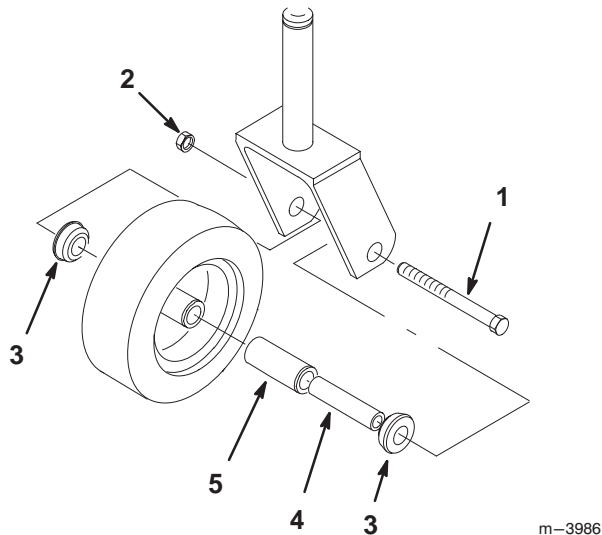

Figure 29
1. Remove the locknut and wheel bolt holding the castor wheel to the castor fork (Fig. 29).
2. Remove one bushing, then pull the spanner bushing and roller bearing out of the wheel hub (Fig. 29).
3. Remove the other bushing from the wheel hub and clean any grease and dirt from the wheel hub (Fig. 29).
4. Inspect the roller bearing, bushings, spanner bushing and inside of the wheel hub for wear. Replace any defective or worn parts (Fig. 29).
5. To assemble, place one (1) bushing into the wheel hub. Grease the roller bearing and spanner bushing and slide them into the wheel hub. Place the second bushing into the wheel hub (Fig. 29).
6. Install the castor wheel into the castor fork and secure with the wheel bolt and locknut. Tighten the locknut until the spanner bushing bottoms against the inside of the castor forks (Fig. 29).